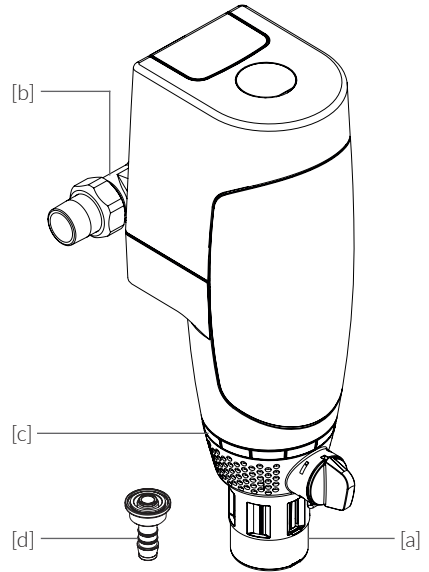

Fig. 5.1
- / Accessories included in scope of delivery: Hose nozzle for filter [d] (Fig. 5.1)
- / Output pressure gauge 0 - 10 bar (Fig. 5.1)